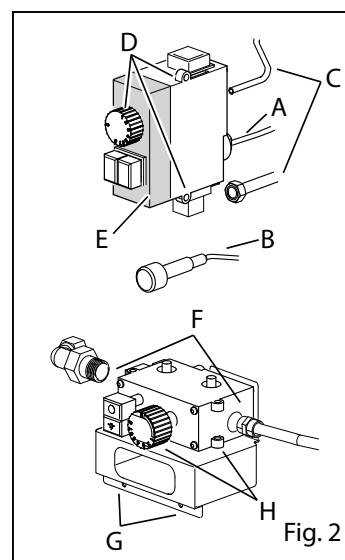

Fig. 2
- Unscrew the thermocouple and the gas inlet / outlet connections (Fig 2/F)
- Unscrew the support and the valve (Fig. 2/G)
- Remove the knob and the valve support (Fig. 2/H)